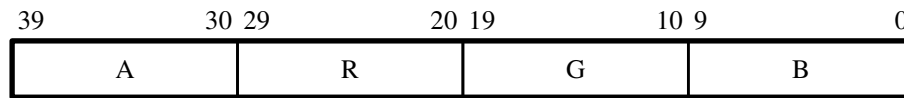

Figure 18. 40-bit RGBA Color Space.
- **40-bit RGBA** — This format contains alpha values as well as RGB and uses 10 bits of each color as shown in Figure 18. This mode is defined as 10 bits per color and four color planes.